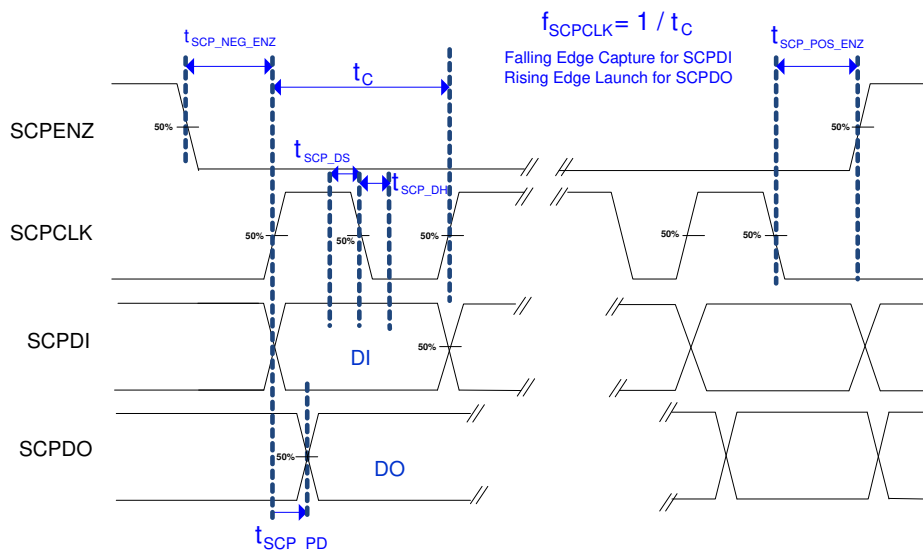

Figure 6-2. SCP Timing Requirements
- (6) Low-speed interface is LPSDR and adheres to the Electrical Characteristics and AC/DC Operating Conditions table in JEDEC Standard No. 209B, "Low-Power Double Data Rate (LPDDR)" JESD209B. Tester Conditions for VIH and VIL.
- (7) PWRDNZ input pin resets the SCP and disables the LVDS receivers. PWRDNZ input pin overrides SCPENZ input pin and tristates the SCPDO output pin.
- (8) The SCP clock is a gated clock. Duty cycle must be 50% ± 10%. SCP parameter is related to the frequency of DCLK.
- (9) See Figure 6-2.